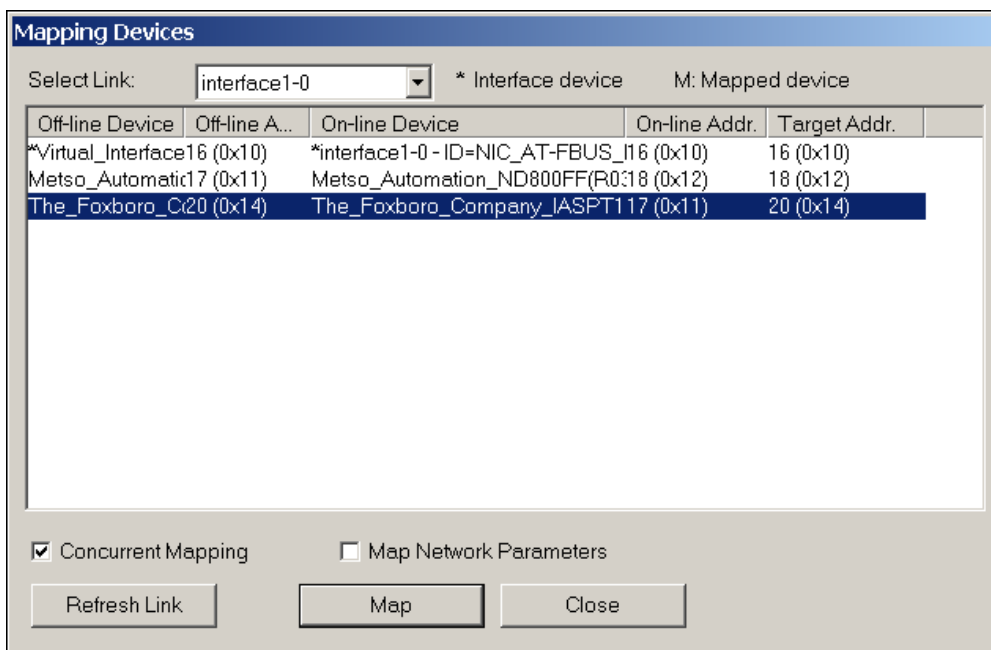

Figure 3-9. Select Target Tags and Addresses
- After the link initializes, a list shows the virtual (offline) devices versus physical (online) devices. You can select the strategy to decide which device's address to use as the target, as shown in Figure 3-9.